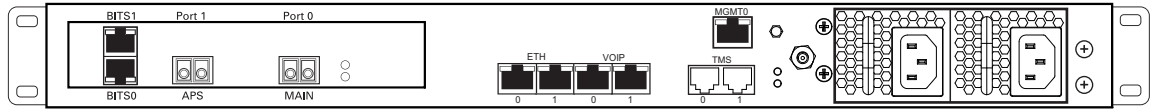

Figure 4.7 Optical Interface to the PSTN
A TMG7800-STM1, with one main and one backup APS OC3 or STM1 port enables connection to OC3/STM1 lines. See figure 4.7 on page 34. The APS port is used for OC3/STM1 redundancy. Switchover occurs automatically based on configurable parameters. It is recommended that APS be used if the installation provides this feature.
1. Connect a fiber optic cable between the Port 0 (Main) port and OC3/STM1 line, as shown in figure 4.7 on page 34.